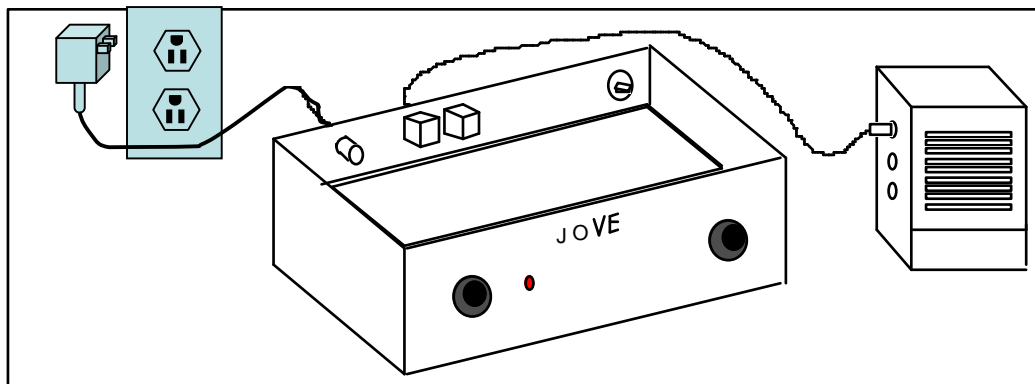

Figure 17. Test set-up, radio with the cover off connected to the AC Adapter and the amplified speaker
2. q Turn the JOVE receiver power switch OFF. Connect either headphones or an amplified speaker (Radio Shack 277-1008C or equivalent) to the receiver audio output (J3 or J4). These jacks accept 3.5 mm (1/8 inch) monaural or stereo plugs. Connect the JOVE receiver to the 12 volt power source as shown in Figure 17.